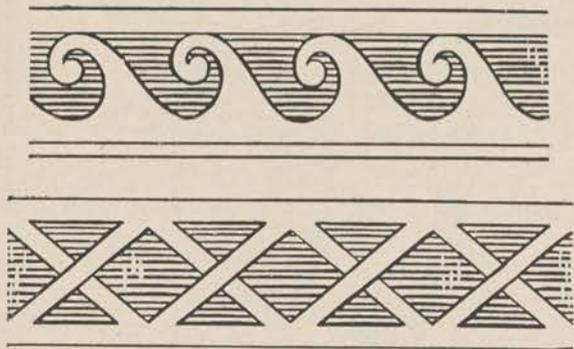

Figure 65.
b. The easiest form of relief carving is flat surface relief, which is simply the reverse of incising. Instead of cutting the lines of the design into the wood, they are left standing and the background is lowered by gouging it out (fig. 65).